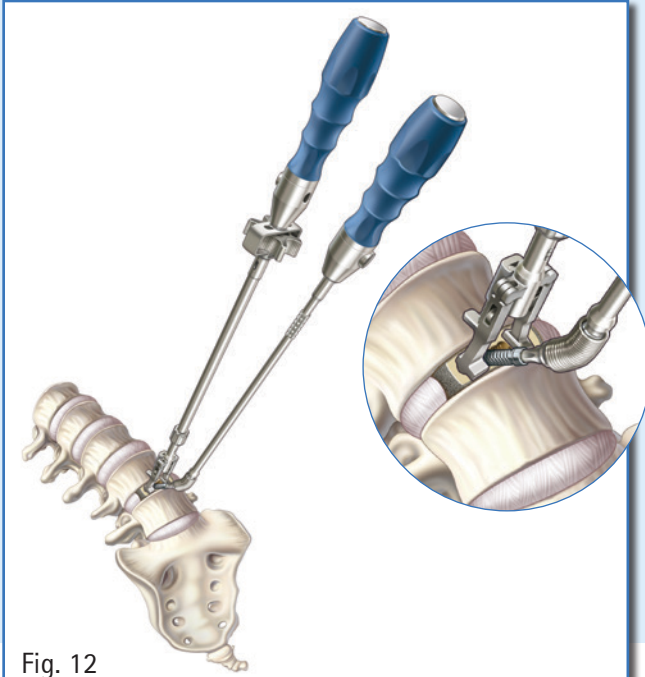
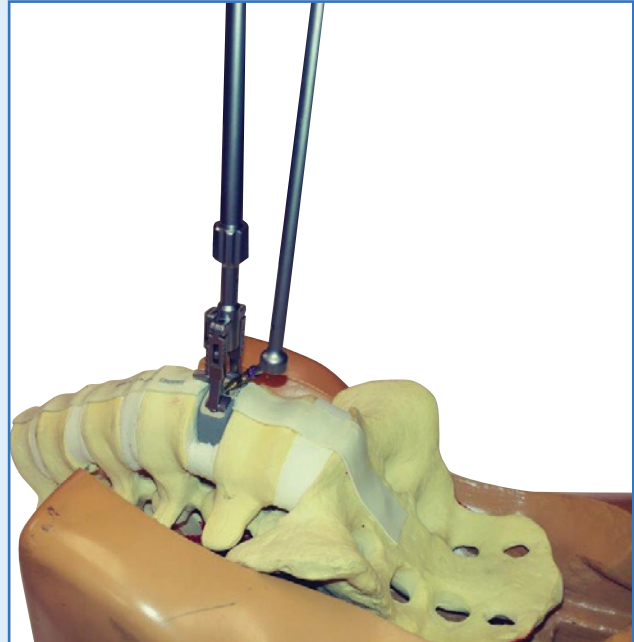

Fig. 12
Fig. 13
- Insert the screw into the prepared medial screw hole (Fig. 12 & Fig. 13).
- Guide the bone awl into one of the lateral screw holes and insert until a hard stop is reached. A hard stop indicates that the awl has punctured the cortical layer of bone (Fig. 13).